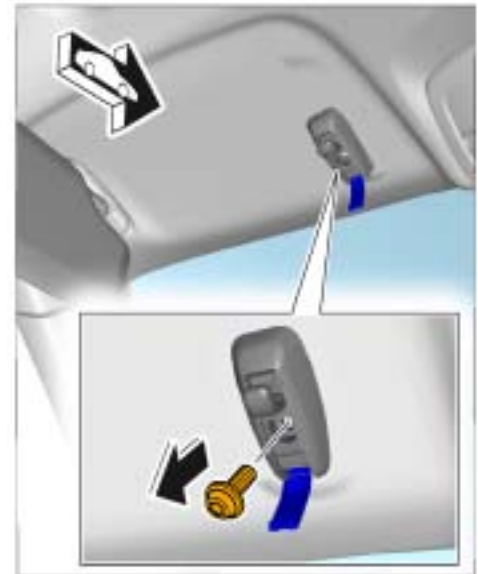

Figure 10
- 1.7.2 Unscrew fastening screw securing sun visor holder ⇒ *Figure 10 -arrow-*.